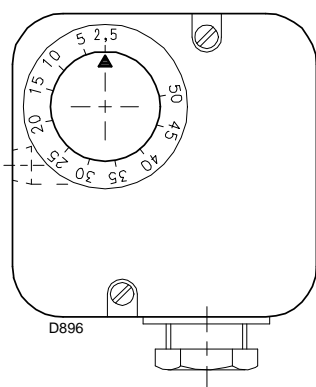

Fig. 31
- Adjust the minimum gas pressure switch to the start of the scale (Fig. 31).